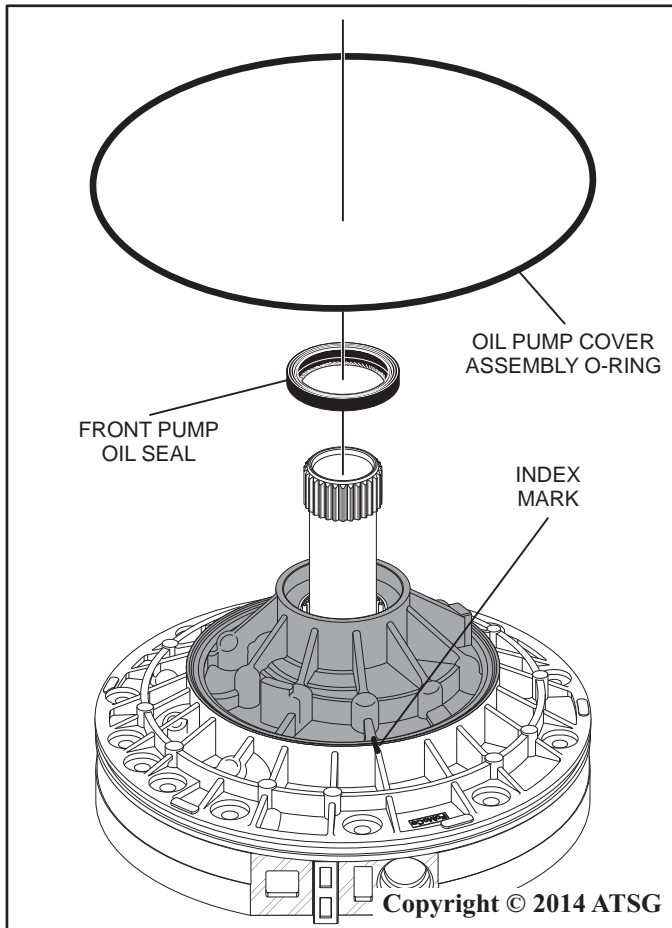
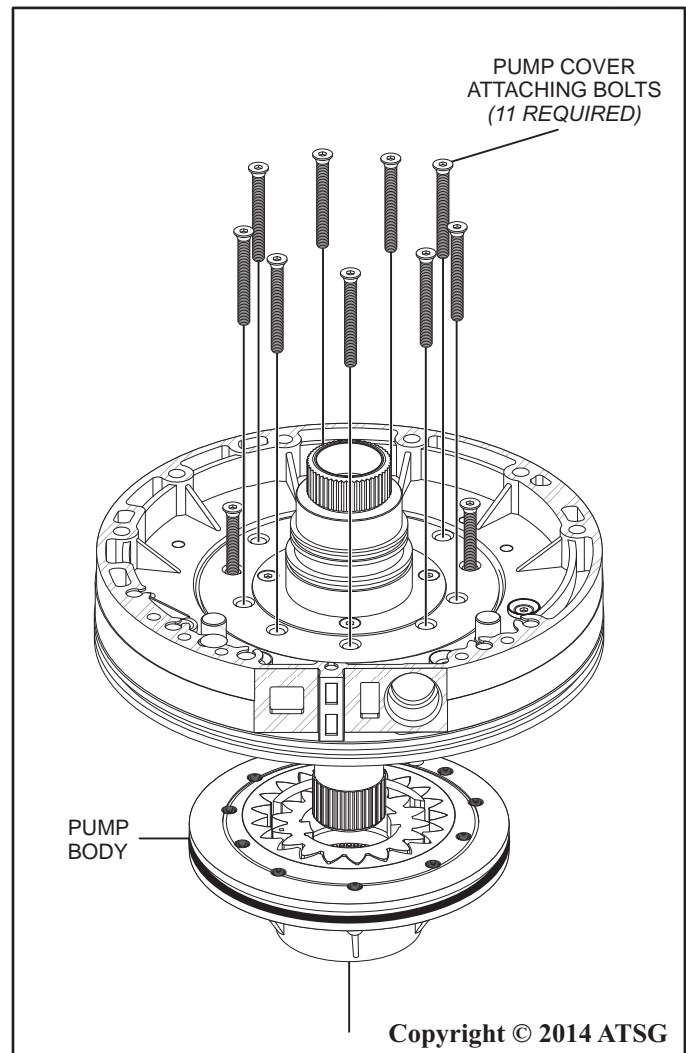

Figure 60
Figure 66
1. Remove the oil pump cover assembly o-ring as shown in Figure 60 and discard the o-ring.
2. Remove the front pump oil seal as shown in Figure 60 and discard the seal.
3. Using a permanent type marker, make an index mark across the pump body and the pump cover as shown in Figure 60. This index mark will assist during reassembly.
15. Line up the ID marks on the pump body and pump cover assembly as shown in Figure 60, then press the pump body into the pump cover as shown in Figure 66.
16. Make certain all bolt holes are aligned in the pump cover and pump body then install and hand-tighten the 11 pump cover attaching bolts as shown in Figure 66.